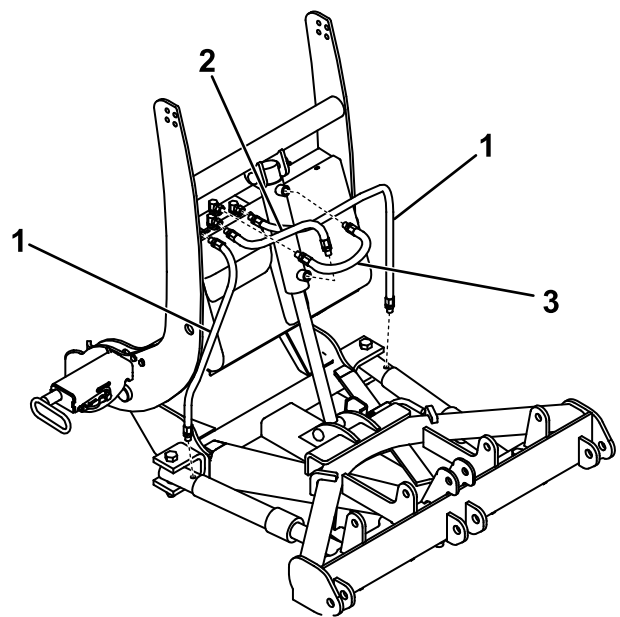

Figure 10
1. Install the 1/4 inch end of the medium hose to the middle fitting on the hydraulic manifold (Figure 10). Turn the fitting until it is finger tight, then turn it 2 to 3 more times.
2. Install the 3/8 inch O-ring end of the medium hose to the lower fitting on the lift cylinder (Figure 10). Turn the fitting until it is finger tight, then turn it 2 to 3 more times.
3. Install the 1/4 inch end of the long hose to the right fitting on the hydraulic manifold (Figure 10). Turn the fitting until it is finger tight, then turn it 2 to 3 more times.
4. Using thread compound, install the 3/8 inch end of the long hose to the right angle cylinder (Figure 10). Turn the fitting until it is finger tight, then turn it 2 to 3 more times.
6. Using thread compound, install one end of the short hose to the upper fitting on the lift cylinder (Figure 10). Turn the fitting until it is finger tight, then turn it 2 to 3 more times.
7. Connect the free end of the short hose to the rear fitting on the hydraulic manifold (Figure 10). Turn the fitting until it is finger tight, then turn it 2 to 3 more times.